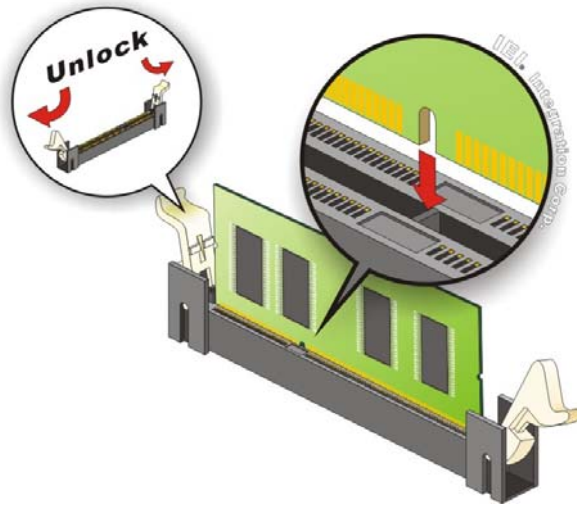

Figure 6-3: SO-DIMM Installation
- Step 5:** Align a new SO-DIMM so the notch on the memory lines up with the notch on the memory slot (**Figure 6-3**).
- Step 6:** Once aligned, press down until the SO-DIMM is properly seated. Clip the two handles into place (**Figure 6-3**).